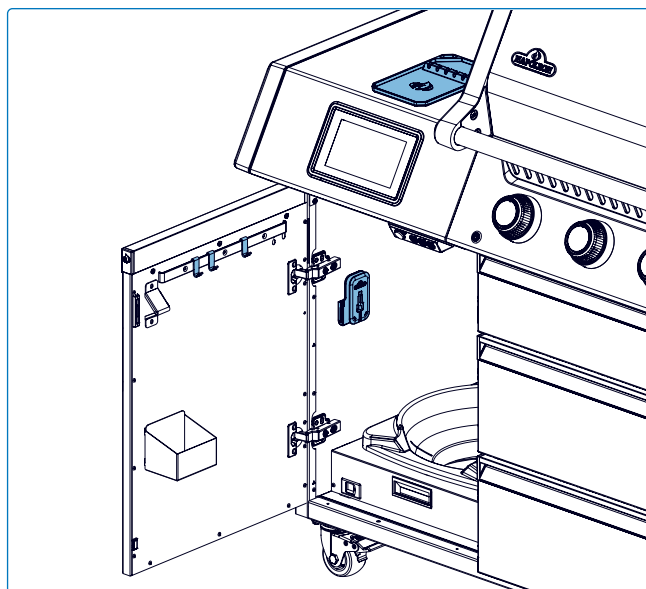

Fig. 9
- Use the probe storage provisions on the side shelf when preparing to cook. Unplug the probes and bring them indoors when not in use to protect them from the elements (**Fig. 9**).